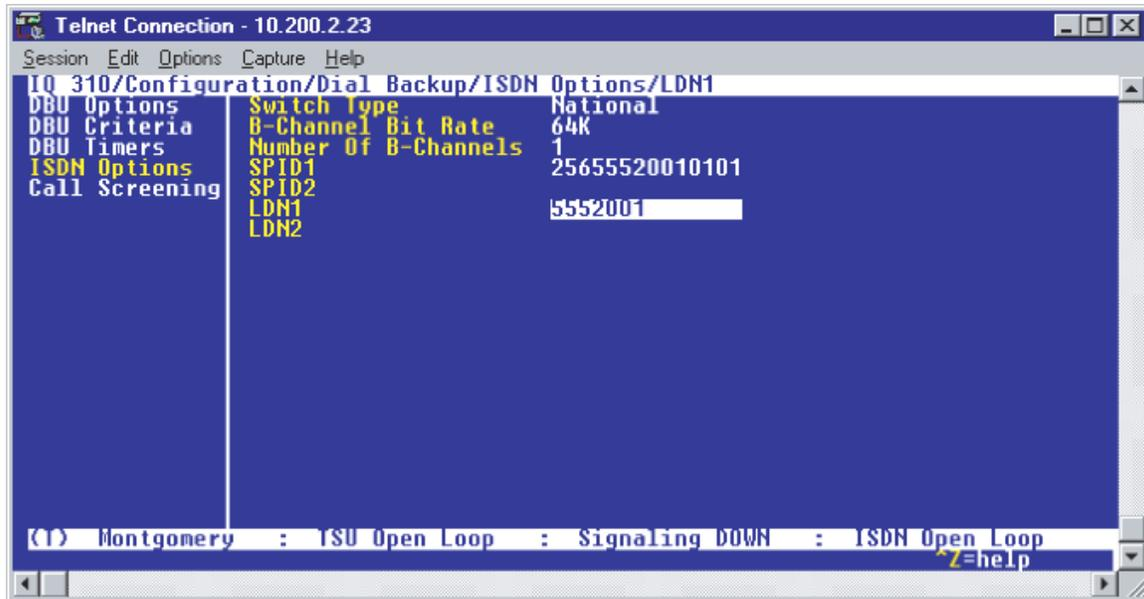

Figure 41. ISDN Options Screen for Montgomery IQ 310
9. A sample screen shot of the ISDN Options screen for the Montgomery IQ 310 is shown in Figure 41.